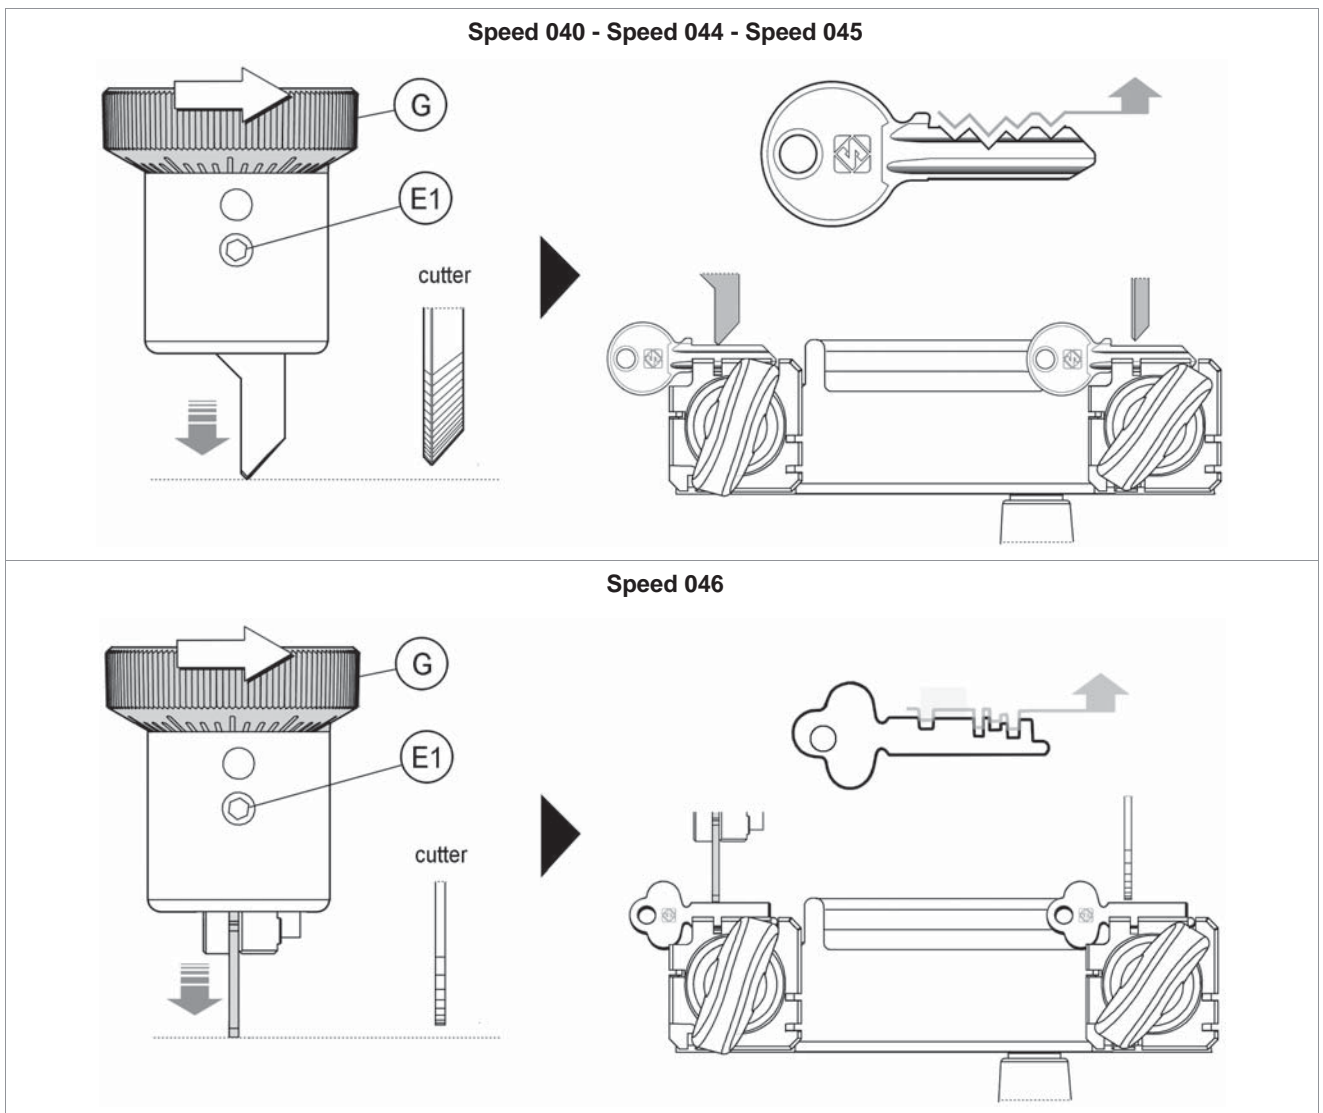

Fig. 22
- b) turn the ring nut (G) clockwise to advance the tracer point (Fig. 22).